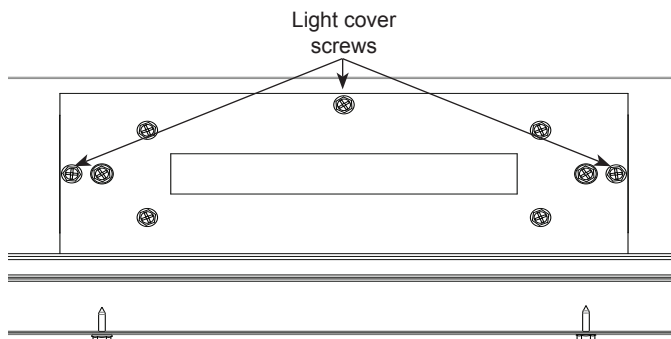

Figure 11–
1. Remove three screws holding light cover in place (as shown in Figure 11)
2. Insert (1) 90W bulb provided into socket